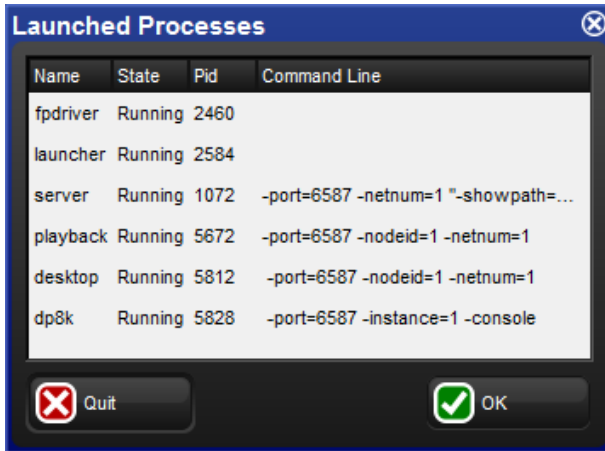

Figure 32.1. The Launched Processes window
1. Pig + Open + Backspace : open the Launched Processes window; see *Figure 32.1, “The Launched Processes window”*.